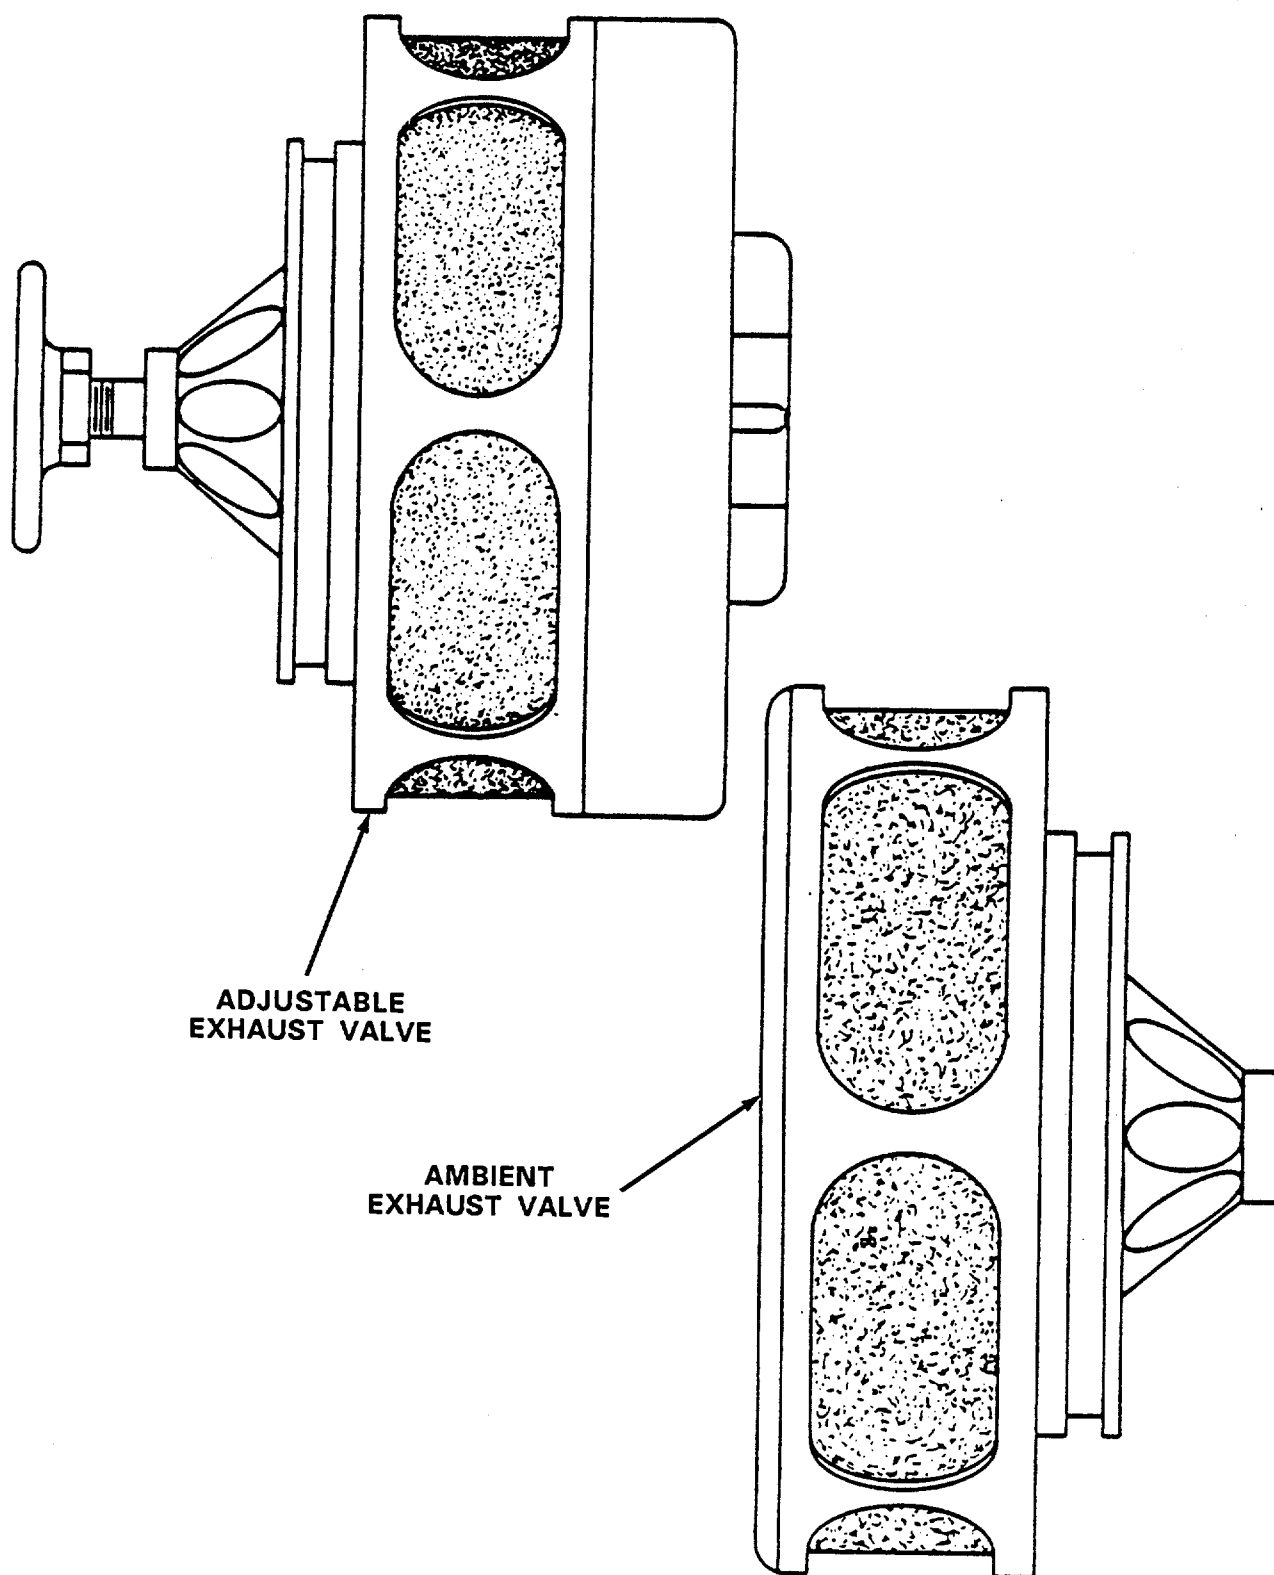

Figure 1-5. Exhaust Valves.
(4) The air supply assembly handles the air flow through the helmet from the umbilical to the air supply diffuser. The air supply adapter is secured to the helmet base with three socket head cap screws, and sealed by a barrel preformed packing set into the adapter body. Contained in the adapter is a 100-mesh stainless steel filter screen, upstream of a cartridge-type one way valve. A preformed packing in the body of the one way valve seals the bore of the adapter. The 3/8-inch stainless steel air tubing is connected to the air supply adapter by a double male fitting which threads into the air supply adapter and sealed with a preformed packing. The opposite end of the tubing is terminated in the same fashion with the double male fitting threaded into the air supply valve body assembly. The elbow of the valve has a threaded relief valve boss to accept the air supply relief valve, which opens at a nominal 20 psig to protect the air supply diffuser against possible rupture should the filter clog or freeze up. The supply diffuser threads into the elbow and serves the dual purpose of diffusing the air into the breathing area and suppressing air noise. The supply valve varies the air flow through its full range. The valve handle is secured to the valve stem by self-locking set screws threaded into two of the handle vanes. Valve handle position is indexed by an extended third vane. The helmet air is discharged through the exhaust valve in either the adjustable or the ambient exhaust valve configuration.
(5) The exhaust valve (figure 1-5) is easily disassembled and reassembled for inspection or maintenance without need for special tools. In the adjustable configuration air exhaust is controlled by a spring-laced poppet-type valve. It is adjustable to maintain helmet pressure in the range of 0.3 ± 0.05 psig to 2.0 ± 0.3 psig above ambient pressure with 6 ACFM flow. Turning the valve handle increases or decreases the spring tension which produces a corresponding effect on internal helmet P. A spring tension adjustment screw, externally accessible at the valve handle center, is used to obtain the high/low settings of the valve operating pressure range. Since the poppet valve is restricted only by spring tension, the diver can press against the chin button or pull it shut with his mouth to manually override helmet P settings. The valve body is mounted to the helmet through an extension of the helmet base and sealed in the penetration with a preformed packing.
(6) When the helmet is used with a neckdam, the ambient exhaust valve (figure 1-5), configuration must be employed. The ambient exhaust valve maintains a low helmet P of 0.125 psig with a flow of 6 ACFM. In the ambient configuration the helmet P is not variable and the valve consists basically of a diffuser with a rubber diaphragm one-way valve. Mounting is the same as the adjustable exhaust valve.
(7) The MK12 SSDS earphones are mounted in molded rubber cups which are cemented into recesses on either side of the helmet shell. The microphone is mounted in an openback rubber cup held by a stainless steel spring clip which snaps onto the air supply valve body. With the communications station, the earphones are connected in parallel, and are in parallel with the microphone. The earphones will then function as transceivers in the event of a microphone failure.
(8) The interior surfaces of the helmet are lined with 1/2-inch thick open-cell polyurethane foam, attached to the helmet with Velcro tape. The liner serves to absorb and deaden helmet noise and to reduce condensation on the helmet interior.